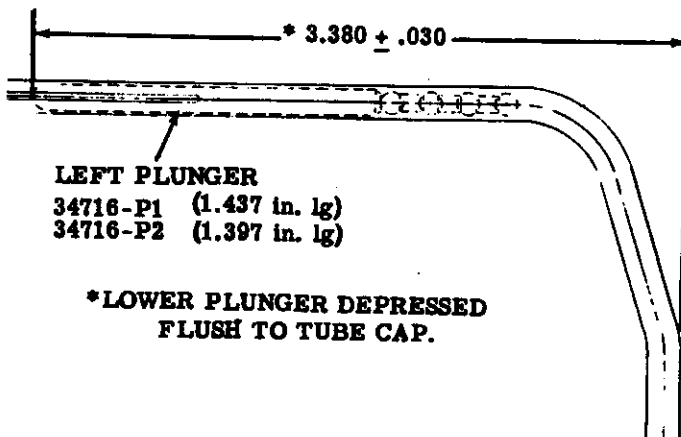

Figure 11. LOADED TUBE DIMENSION.
**WARNING:** Do not tip the camera so that balls and or spacers will fall out of tube. There are approximately 71 or 72 balls, or 44 balls, and 42 spacers alternating with a ball at lower end. The tube must be removed to measure the correct loaded dimension (figure 11). Vary components by adding one ball or removing one spacer or by selective use of left plunger or any combination of these three variations.